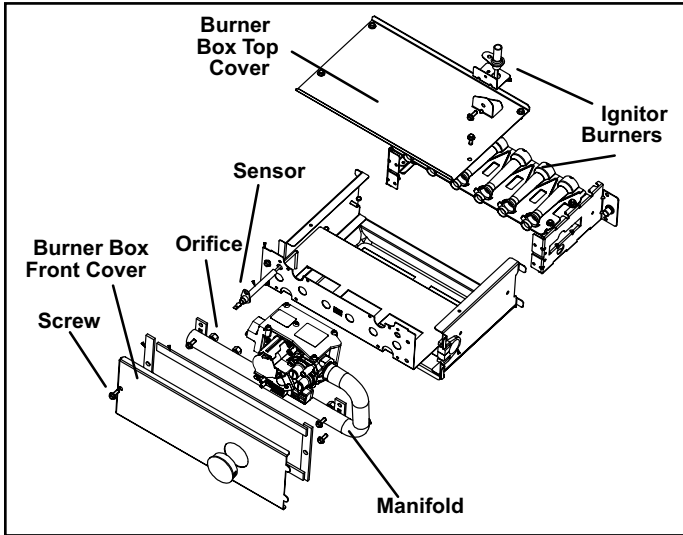
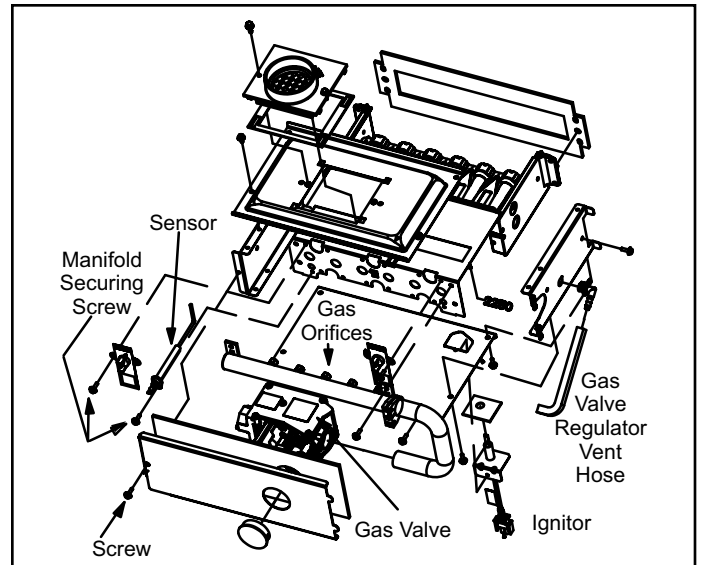

Figure 2. A802 & 80G2 Burner Box
Figure 3. A952 & 95G2 Burner Box
4. Remove the screw that secures the burner box front cover and remove front cover. See Figure 2 or Figure 3.
5. Remove the four manifold securing screws. Remove the manifold/gas valve assembly. Replace the main burner orifices with the provided orifices. Torque to approximately 35 in-lbs. See Figure 2 or Figure 3.